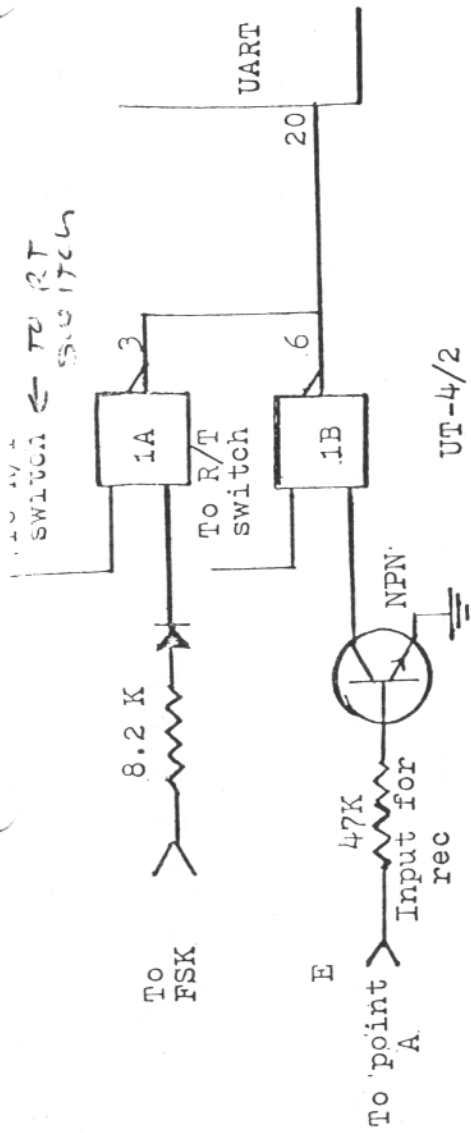
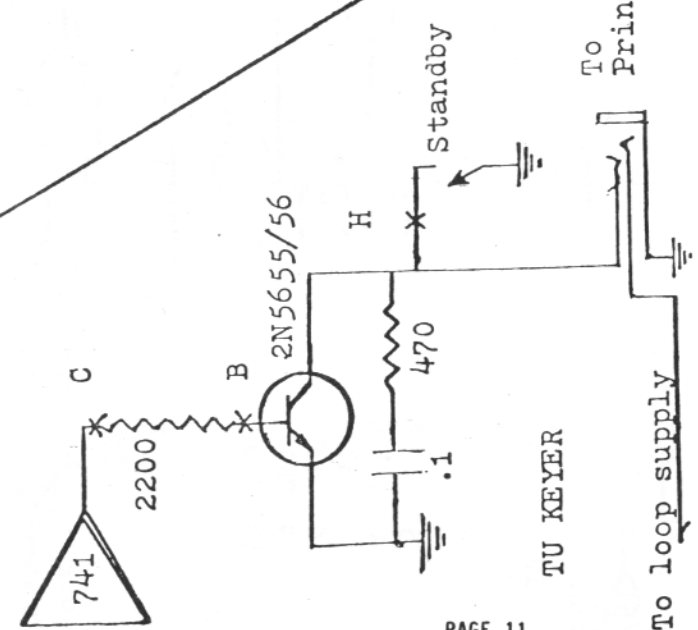
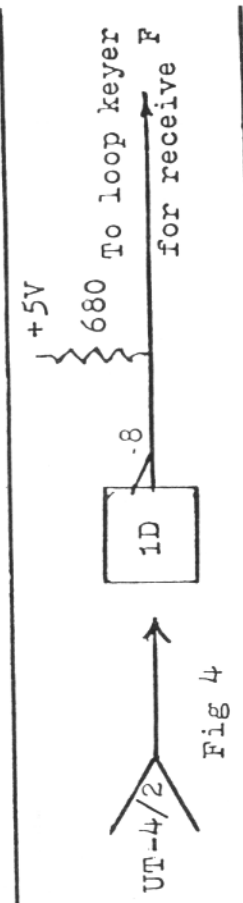

Fig 3
Fig 2
Fig 4
Operation with a UT-4 or UT-2 is similar to TU only operation with the following exceptions. Pin 2 of IC9A is tied low by connecting the K to L strap and pin 7 of IC6 is left floating at M. The noninverted ID from pin 9 of IC6 is tied to pin 4 of IC8B and pin 5 of IC8B is fed from IC-ID pin 8 of the UT-4/2. The output of IC8B pin 6 is then fed to the base of the loop keying transistor to produce local copy and an FSK voltage to key the UART input as in Fig. 3 point "E".
1. On your TU, Remove the 2.2K (red red red) resistor between the op-amp 741 and the keying transistor (2N5656 -MJE 340, 2N3739 or equivalent) C and B figure 2.
3. Wire pin 12 of RTTY ID edge connector to base of Keying transistor mentioned in step 1 above. (Point B of Figure 2).
4. Wire pin 10 of RTTY ID edge connector to output of the op-amp mentioned in step 1 above. (Point C of Figure 2).
5. Remove TU stand-by line. (Point H of Figure 2).
3. Wire pin 13 of RTTY ID board edge connector to base of keying transistor in TU. (Point B Figure 2).
4. Wire pin 14 of RTTY ID edge connector to UART output. This was connected to base of keying transistor before step 2. (See Point F Figure 4).
connected to the TU op-amp output before step 2. (See Point E Figure 3)
6. Remove TU stand by line.(Point of Figure 2).
NOTE 1. To input from pin of op-amp (Figure 2 Point C). Omit 2200 ohm resistor.
NOTE 4. For TU operation tie A Figure 1 to point B Figure 2.
NOTE 5. For UT-4/2 operation tie D Figure 1 to point B Figure 2. Tie point A Figure 1 to point E Figure 3. Tie point F Figure 4 to point G of Figure 1.
NOTE 6. Cut at point H Figure 2 and connect to pin 1 of IC9A, Figure 1. THIS APPLIES TO ALL MODES OF OPERATION.